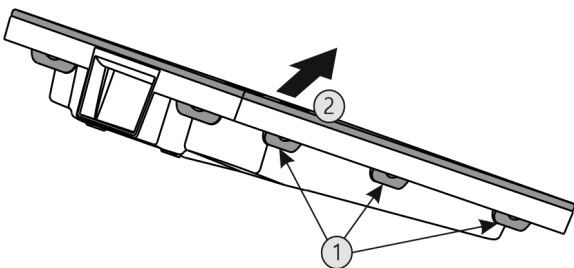

Fig. 65
- ▶ Press all lugs Fig. 65 (1) one after another and remove the cover Fig. 65 (2).